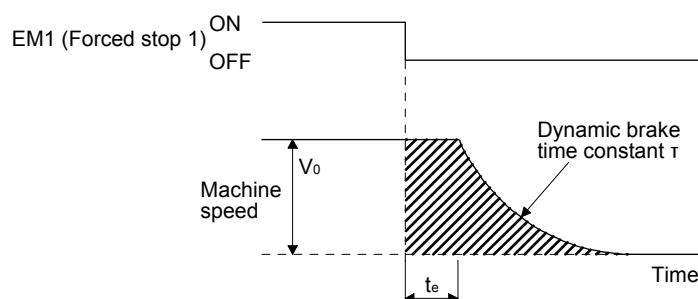

Fig. 15.3 Dynamic brake operation diagram
Fig. 15.3 shows the pattern in which the servo motor comes to a stop when the dynamic brake is operated. Use equation 15.1 to calculate an approximate coasting distance to a stop. The dynamic brake time constant  $\tau$  varies with the direct drive motor and machine operation speeds. (Refer to (1) (b) of this section.)